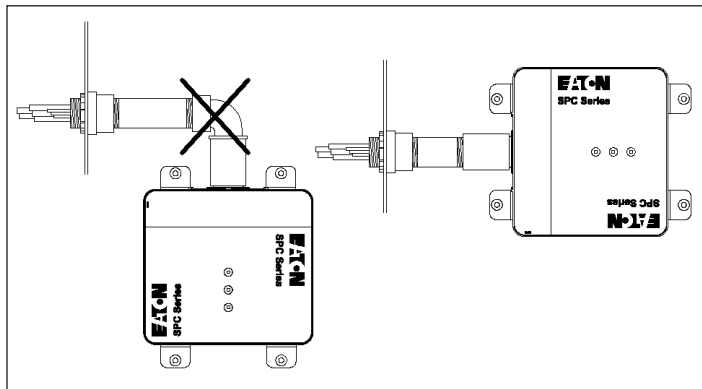

Figure 3. Alternate Installation.
**WHEN USING CONDUIT, AVOID USING 90° ELBOWS AND KEEP THE CONDUIT RUN AS SHORT AND STRAIGHT AS POSSIBLE. SEE FIGURE 3.**